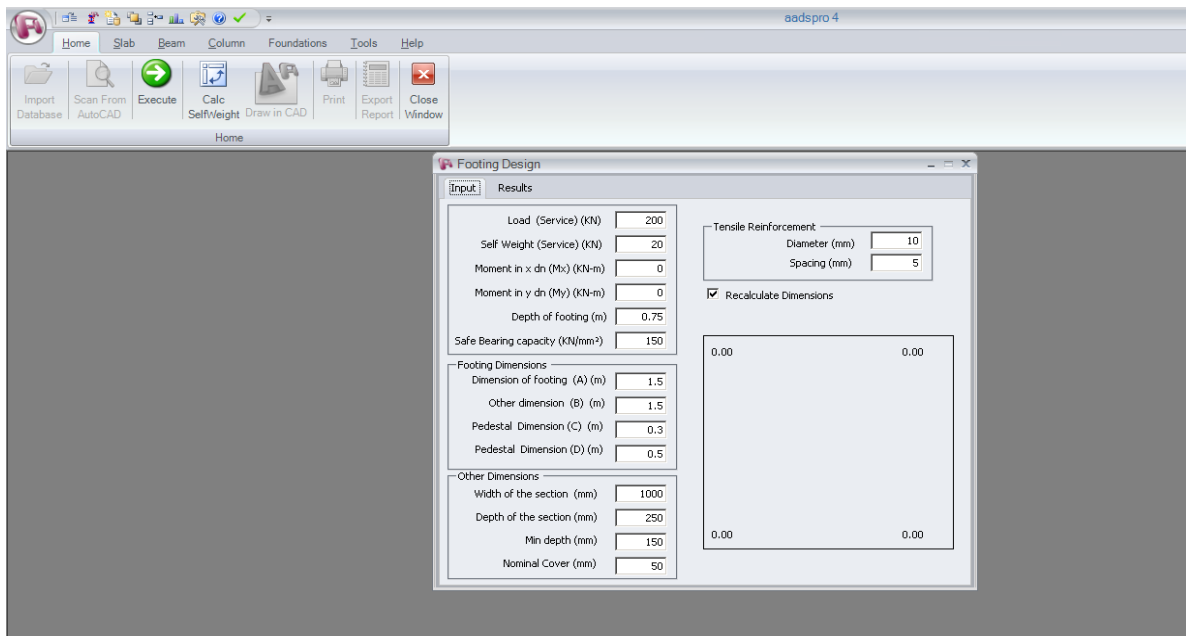

Fig.4.2.2
1. User can set data in footing design grid (fig 4.2.2)